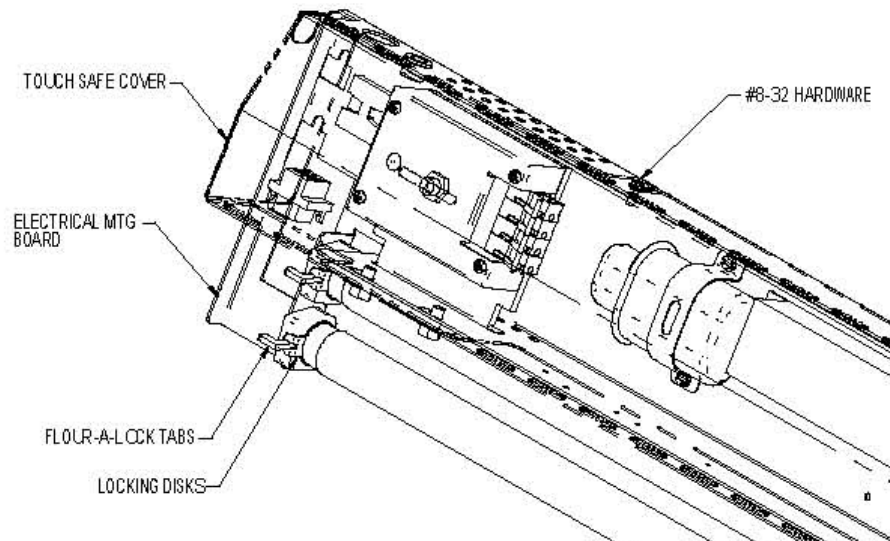

Fig. 3
- 4) Remove *FLUOR-A-LOCK* tabs (2) from the lamp sockets located on the left side of the fluorescent lamps. (Fig. 3) Using both hands, grasp the lamp carefully near each end and rotate it approx $\frac{1}{4}$ turn until the lamp is no longer seated in the lamp sockets. Slide each end out of the sockets. Repeat the process for removing the second lamp and dispose of them properly.
- 5) Install new lamps by following step 4 in reverse order. Make sure that the locking disks are installed on one end of each lamp and that the *FLUOR-A-LOCK* tabs are inserted properly. (Fig. 3)